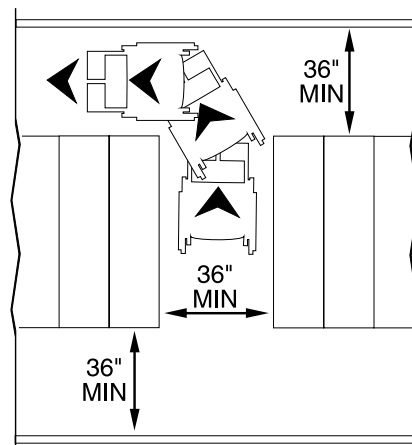

Figure 2. Dual access aisles may eliminate the need for a turnaround space if all areas are a compliant width of 36 inches (915 mm).
- Dual access aisles — Providing access on either end of an aisle may eliminate the need for a turnaround. People using wheelchairs can simply enter one end of the aisle and exit the other end (Fig. 2). Care must be taken that access aisles outside the system (such as those between a system and a wall) are also a compliant width.